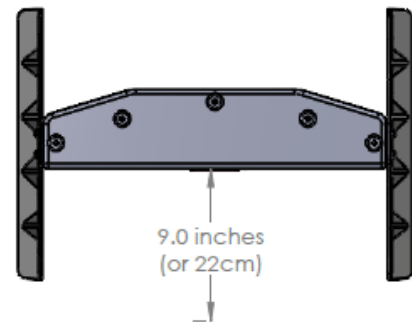

Figure 14 Marking a 9" point from the center of the device
- Mark this distance on the floor (*see Figure 14*).